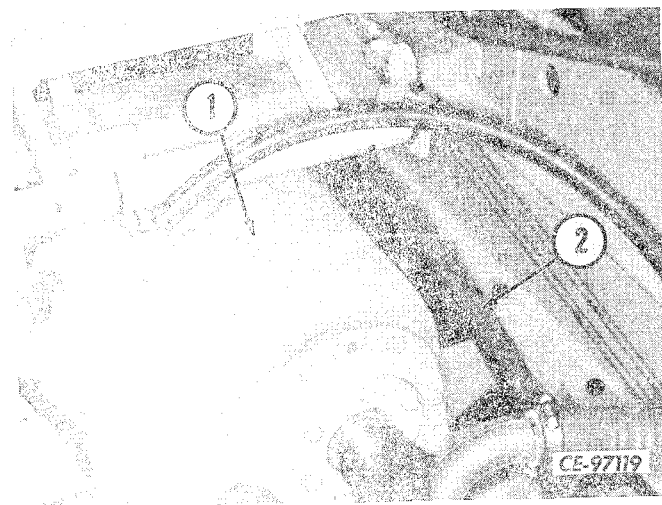

Figure 4-14
Disconnect converter-to-transmission relief valve hose (2, Fig. 4-14) from transmission (1).